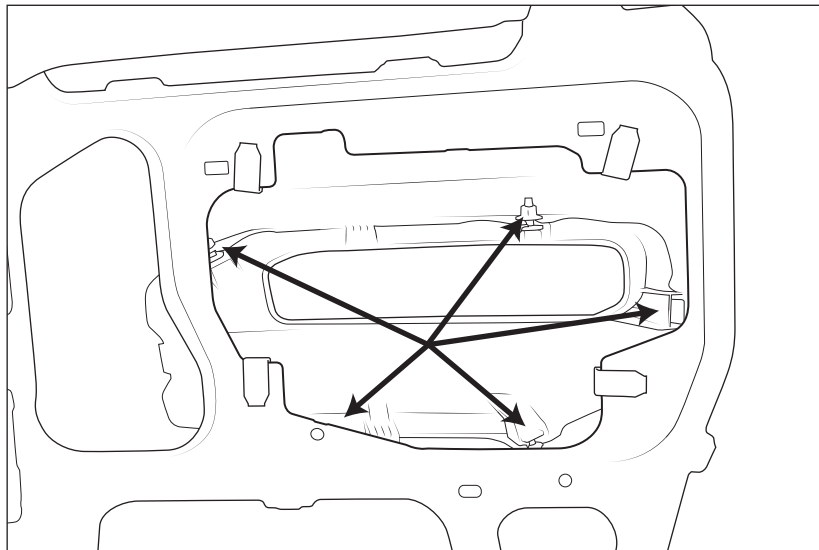

Figure 5
5. Remove the factory fog lamp bezel or block off plate by removing the five 10mm nuts and square head bolts. Snap the bezel or block off through the front side of the bumper (fig. 5). SAVE hardware and bezel or block off plate for later use.